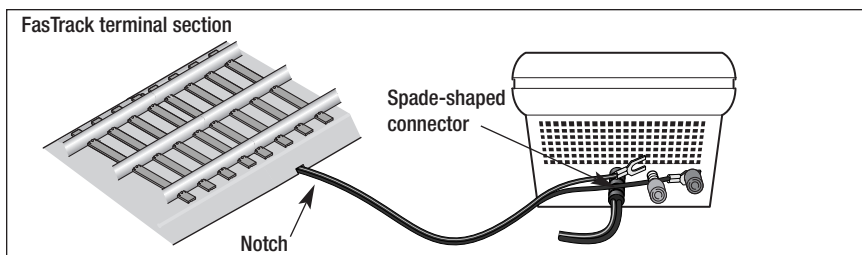

Figure 1. Controller connections
1. **Feed the wires through the notch in the FasTrack terminal section.** Refer to Figure 1.